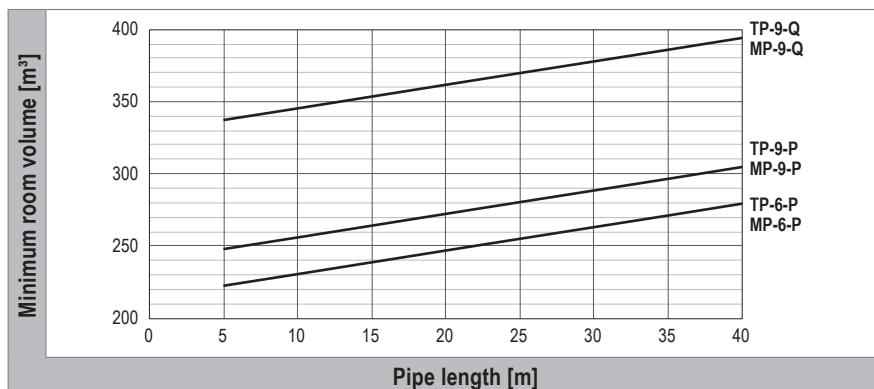

Fig. 9: Minimum room volume depending on the total refrigerant charge in accordance with EN 378
- The room volume corresponds to the minimum values shown in Fig. 9 meaning that the permissible QLMV value is not exceeded.